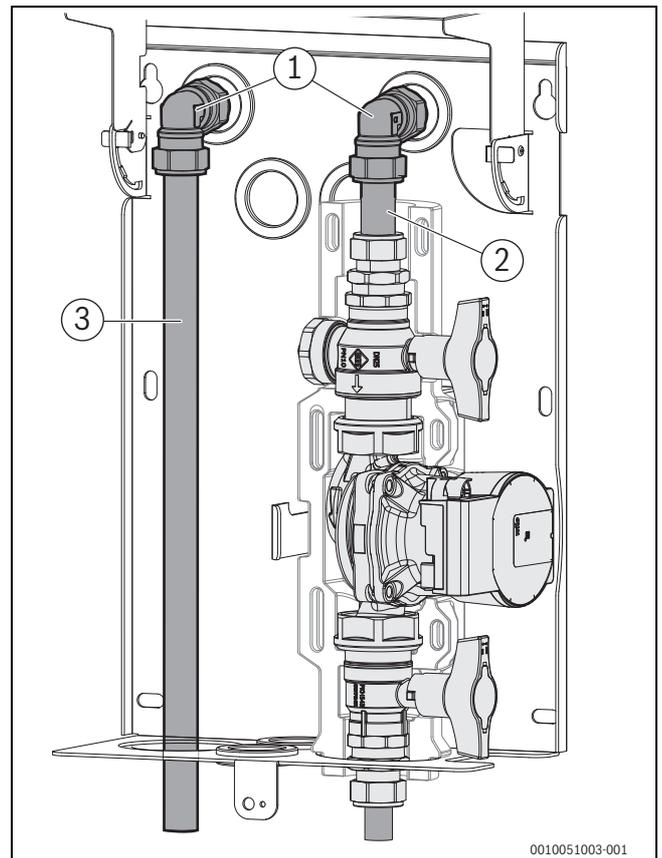

Fig. 18 Establishing the hydraulic connection (option 1, hybrid manager not shown)
- ▶ Mount the Ø 22 mm elbow clamping ring fitting and the pipe connector from the scope of delivery on the pump line (→ Fig. 18).